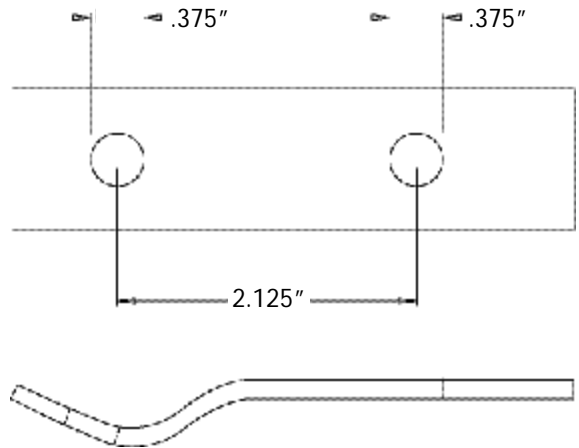

Figure 3 - Air Conditioning Bracket Which Must be Fabricated (Some Applications)
- b. Refer to Figure 3. Use strap furnished and drill with 3/8" drill and form to drawing. Bolt piece to manifold. Drill through air conditioning bracket where upper hole is in strap. Secure with 3/8" bolt, nut, and washer.